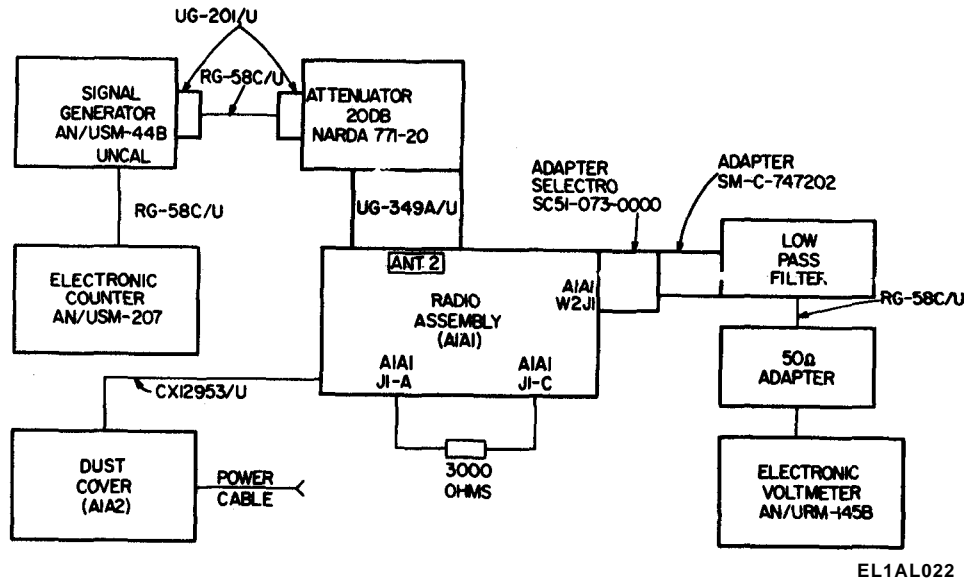

Figure 6-14. Gain test connections.
(1) Remove the receiver from the dust cover (para 6-6).
(2) Remove IF amplifier A1A1A3 (para 6-6).
(3) Perform the preliminary test setup (para 6-12).
(4) Connect the test equipment as shown in figure 6-14.